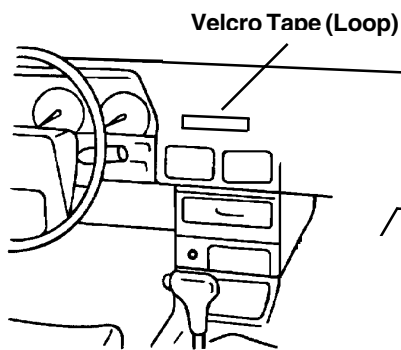

Figure 1.
3. Remove the protective paper from the back of the first piece of the supplied Hook & Loop Adhesive Tape (Loop side) and apply it to the mounting surface (see Figure 1.)